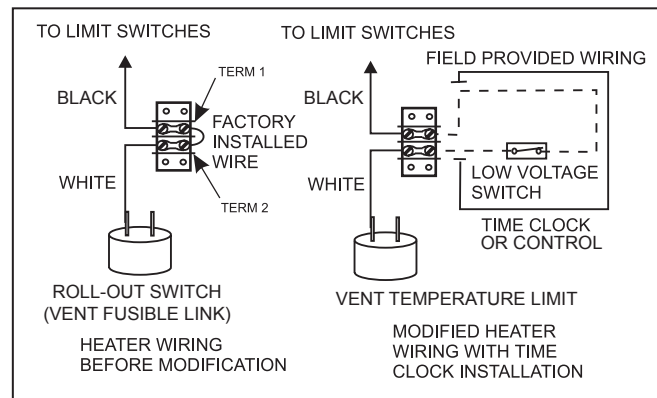

Figure 16. Time Clock Wiring or Control Connection
To install a time clock auxiliary switch into the heater wires (see Figure 16):
2. Remove the factory installed wire between terminals 1 and 2 on the terminal strip (see Figure 16).
3. Connect the wires from the time clock auxiliary switch to the two (2) terminals. Use 14 AWG (2,5 mm²) stranded copper wire with a temperature rating of 105°C (221°F) or greater.